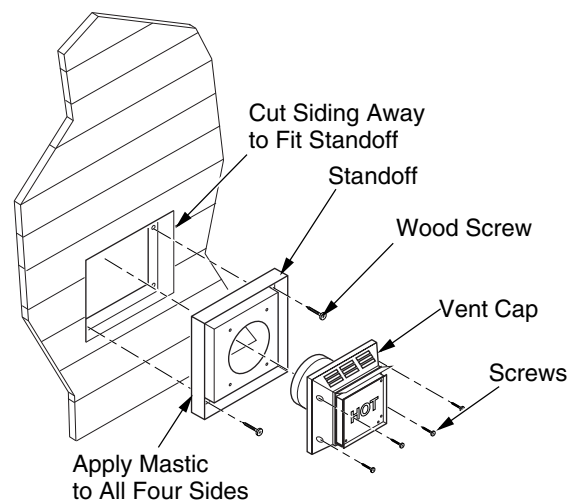

Figure 11 - Installing Siding Standoff (Combustible Exterior Wall)
**Combustible Exterior Wall:** For vinyl siding, stucco, or wood exteriors, a siding standoff may be installed between the vent cap and exterior wall. The siding standoff prevents excessive heat from damaging the siding materials. Siding material must be cut to accommodate standoff. Bolt the vent cap to the standoff. Apply non-hardening mastic around outside edge of standoff. Position the standoff/cap assembly in the center of the 10 3/4" square hole and attach to exterior wall with wood screws provided (see Figure 11). The siding standoff must sit flush against the exterior fascia material.